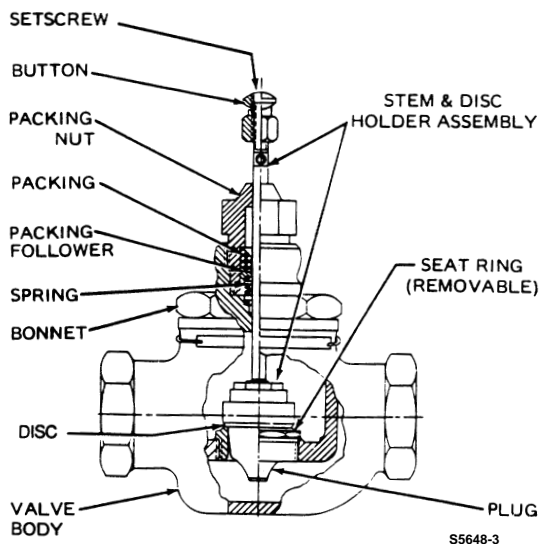
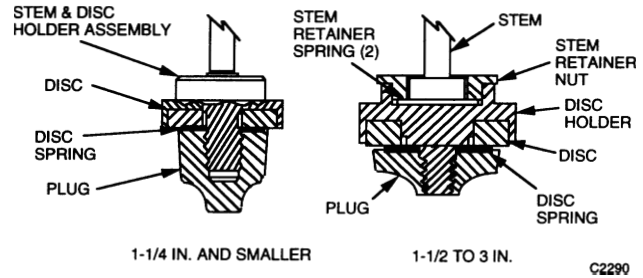

Fig. 10. V5011A, C, F, and G Direct Acting Threaded Body Valve—Cutaway.
Fig. 17. Disc Holder Assemblies Used in V5011A Threaded Body Valves.
- a. V5011A, C, F, and G Direct Acting Threaded Body Valves (Fig. 10). Unscrew the Bonnet. Lift out the Stem or Stem and Disc Holder Assembly and the Plug.
- a. V5011 Threaded Body Valves. Unscrew Plug (Fig. 10) from Stem to remove Disc and Spring. The Disc may have to be pried from the Disc Holder with a screwdriver. Valves that are 1-1/2 inch or larger have separate Stem and Disc Holder. Smaller valves have a staked Stem and Disc Holder Assembly (Fig. 17). The Stem and Plug cannot be disassembled on some valves with metal-to-metal seats (V5011C1524 through V5011C1623).